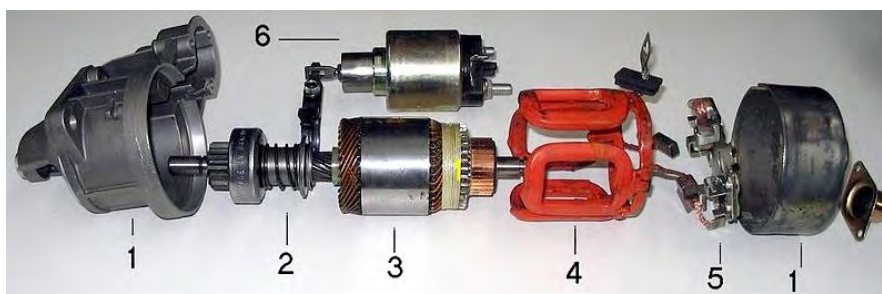

Figure 3.18: *Exploded view of starter motor*
6. **Starter switch:** An Ignition (or starter) switch is a switch in the control system of an internal combustion engine that activates the main electrical systems for the vehicle. Besides providing power to the starter solenoid and the ignition system components (including the engine control unit and ignition coil), it also usually switches on power to many “accessories” (radio, power windows, etc.). The ignition switch usually requires a key be inserted that works a lock built into the switch mechanism. It is frequently combined with the starter switch which activates the starter motor. Fig. 3.18 shows an exploded view of starter motor.